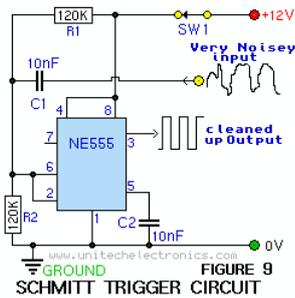

FIGURE 9
**Schmitt Trigger: Figure 9 (above)**